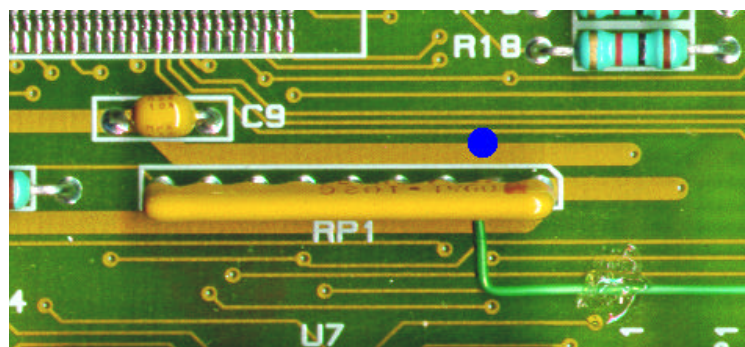

Figure 5. Resistor pack connection
- Connector J3 Pin 15 to Resistor Pack 1 (RP1) Pin 2 (blue dot to blue dot ; see Fig. 5)